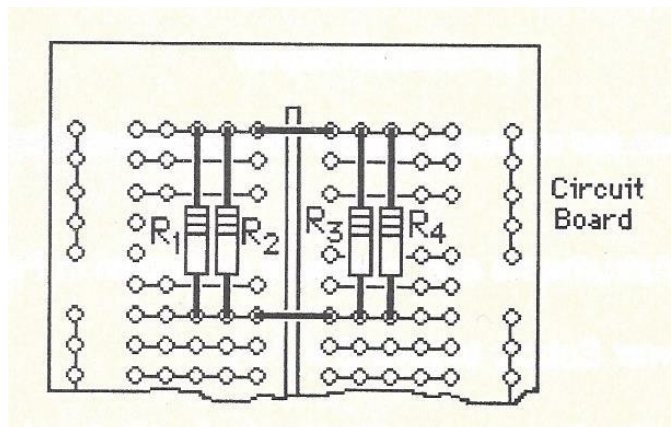

Figure 1
2. Connect R_1 , R_2 , R_3 and R_4 in parallel as shown in Figure 1.